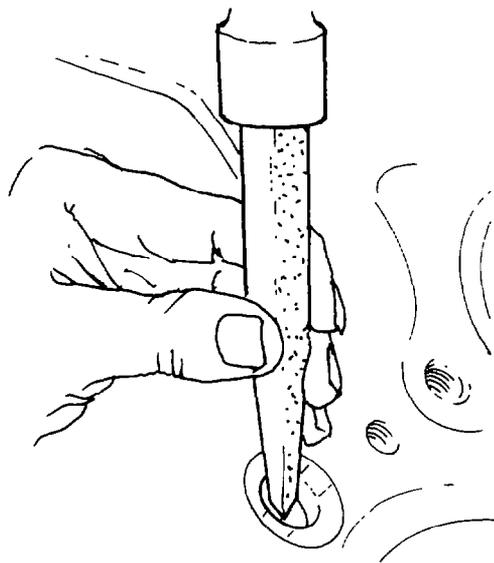

Fig. 185 — Removing Expansion Plugs
- a. Using a sharp tool, punch a hole in the idler shaft expansion plugs and pry the plugs out (see fig. 185).